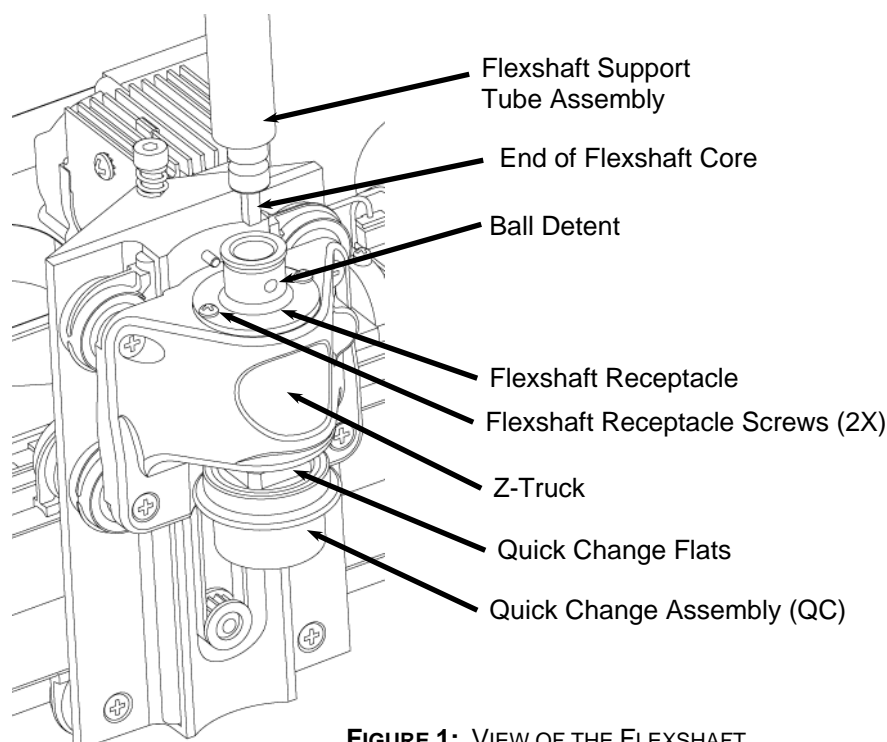

FIGURE 1: VIEW OF THE FLEXSHAFT CONNECTION TO THE Z-TRUCK
2. **Detach the flexshaft from the top of the Z-truck:** Move the Z-truck to the very top of its travel (until it reaches the hard stop) so that the flexshaft support tube protrudes from the head cover (See Figure 1). The flexshaft assembly is retained by a ball detent located in the flexshaft receptacle. Firmly grasp the flexshaft support tube while reaching under the clear front cover with your other hand to grab the Z-truck. Pull up firmly on the flexshaft support tube and twist slightly while bracing the Z-truck with your opposite hand. **DO NOT PULL ON THE SHEATH.** The flexshaft will pop out of the detent. Wrap the end of the flexshaft in tape so that the core will not fall out and lay the detached flexshaft end to the side.